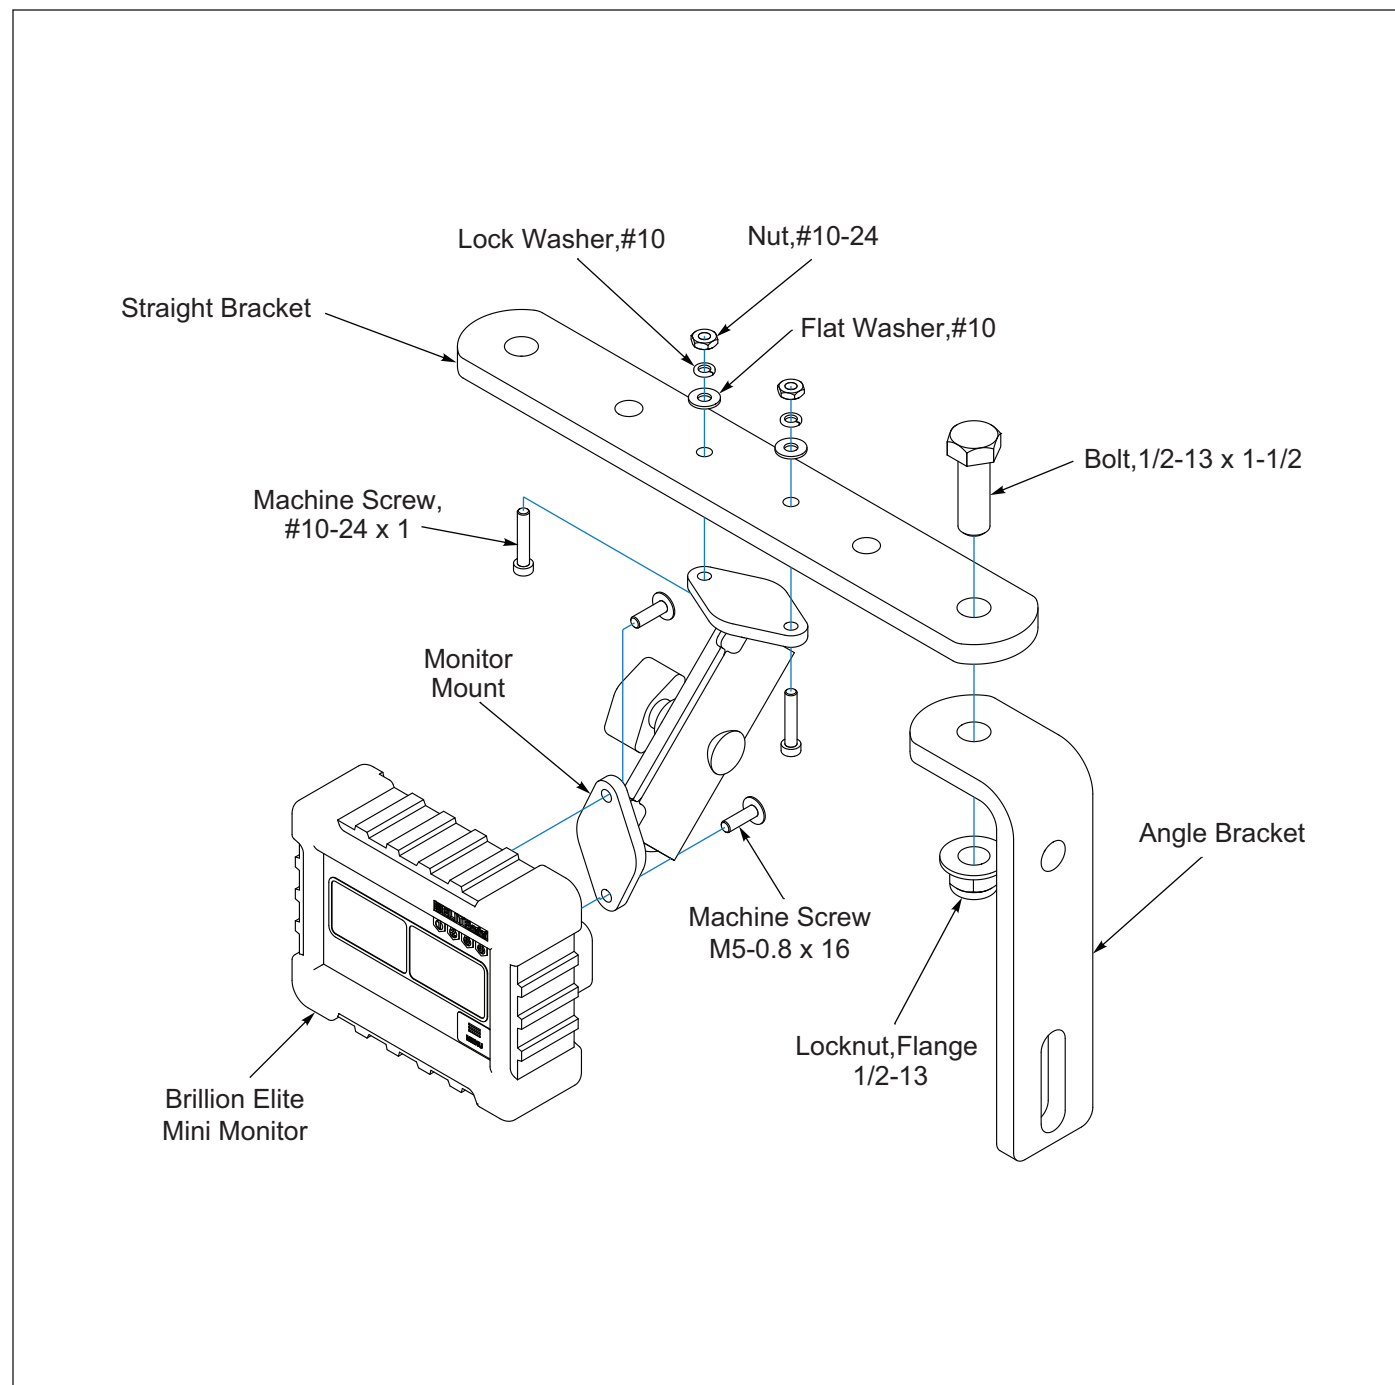

Figure 2-37: Brillion Elite Mini Monitor Tractor Installation - Optional
1. Mount Angle Bracket onto Tractor where convenient for the operator. **See Figure 2-37.**